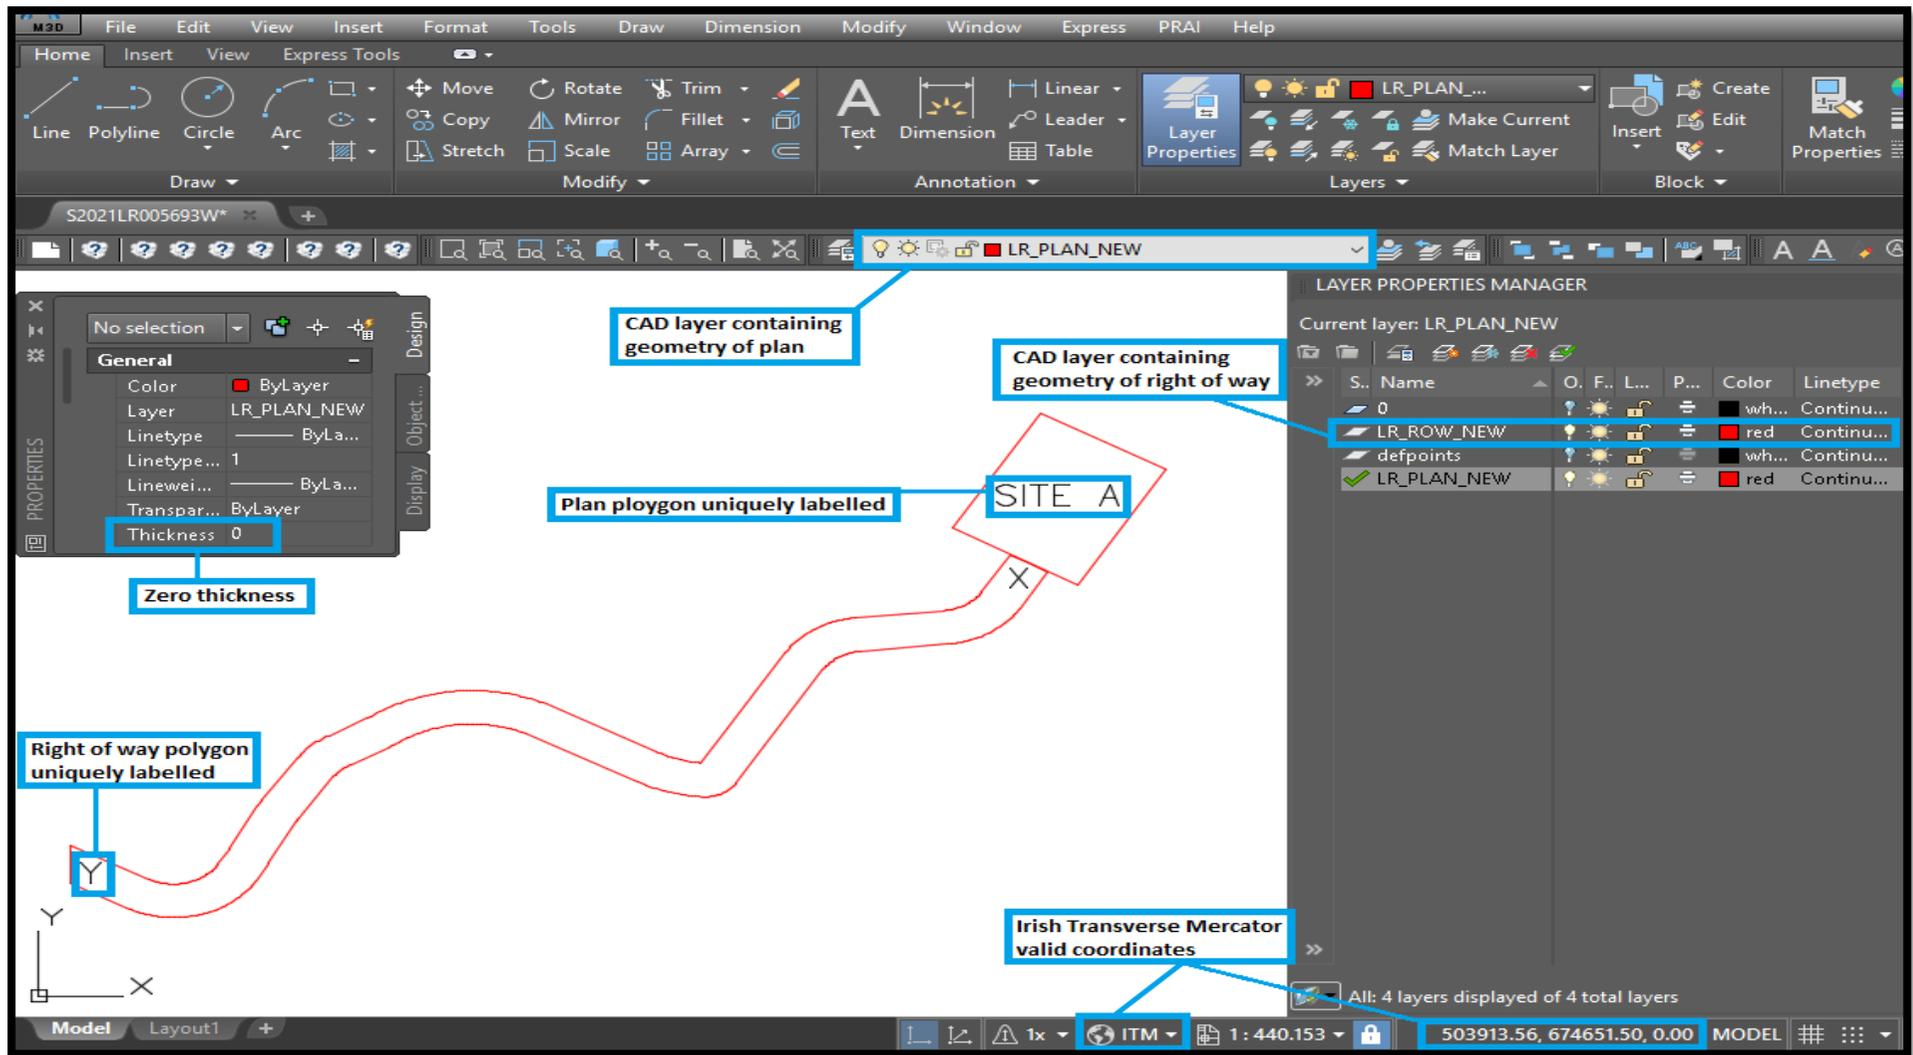

Figure 1. Requirements for the electronic lodgement of proposed registration geometry
A CAD file submitted as part of an application to the PRA must conform to the following Layer standard for details which are directly related to the proposed registration. See examples of DWG & Layer Properties Manager in Figure 1.
- **LR_PLAN_NEW** Used for proposed plan area boundaries which are not already part of the Land Registry Map register and any annotation relating to the proposed plan registration, **i.e. Site A (Figure 1)**. All vector geometry supporting plan boundaries must fully enclose the area, the subject of the proposed registration, i.e. closed polygons.
- **LR_ROW_NEW** Used for proposed right of way/wayleave area boundaries which are not already part of the Land Registry Map register and any annotation relating to the proposed right of way/wayleave registration, **i.e. X – Y (Figure 1)**. All vector geometry supporting right of way/wayleave boundaries must fully enclose the area, the subject of the proposed registration, i.e. closed polygons.